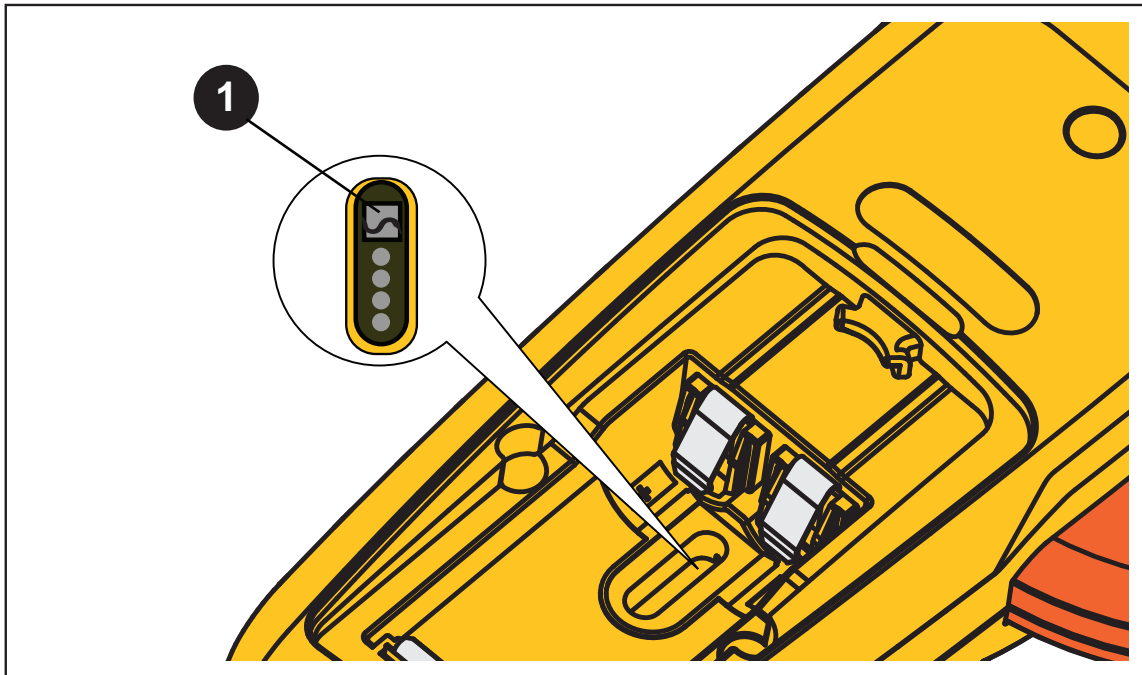

Figure 2. Calibration Button
3. The recessed calibration button is underneath the calibration sticker that is underneath the batteries. Use a small probe to push through the sticker and short the two sections of the calibration button traces, see ① in Figure 2.